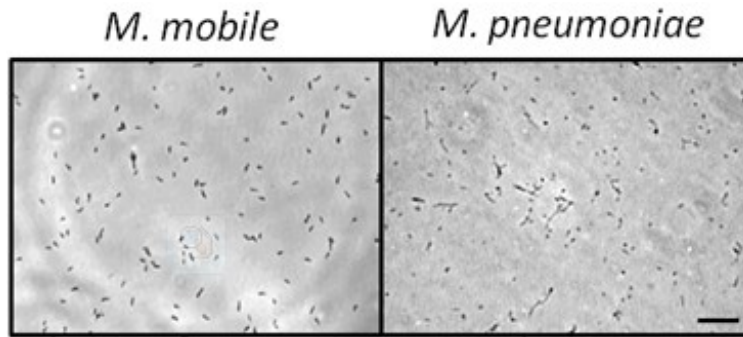

Figure 2. Appearance of *Mycoplasma* cells (Bar 10 mm)
6. Observe the cells bound to the coverslip with microscope with a 100x phase-contrast objective lens with video recording (see Figure 2 left).
9. Observe the cells bound to the coverslip by the microscope with a 100x phase-contrast objective lens heated by the lens heater, with video recording (see Figure 2 right).